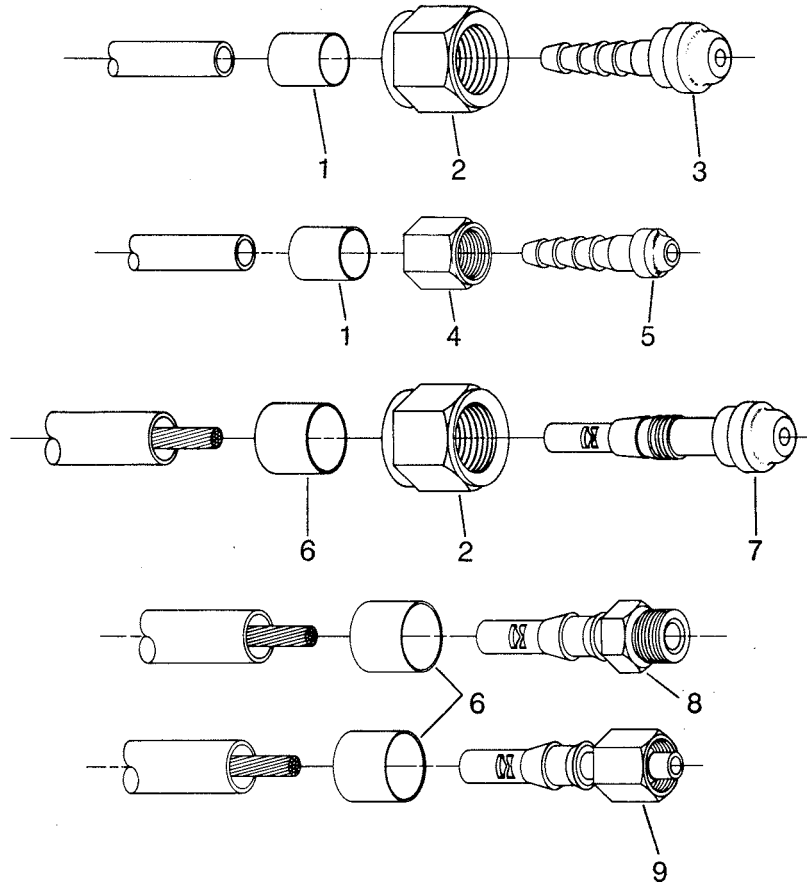

Figure 5-3 PWM-300 Torch Leads and Hose Fittings
- Figure 5-3 PWM-300 Torch Leads Assembly